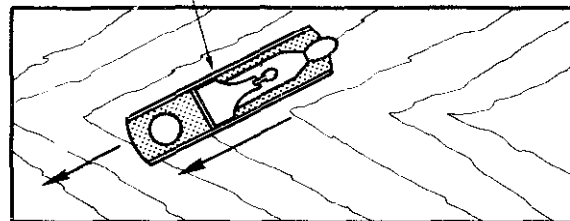

Fig. 8-24 Using a diagonal stroke for smoothing a surface.
4. Plane the entire surface of the board using strokes diagonally to both corners. See figure 8-24. When the plane cuts the wood surface throughout each of the strokes the surface will be fairly straight. The jointer or fore plane should be used on large surfaces to make the board flat and straight faster.